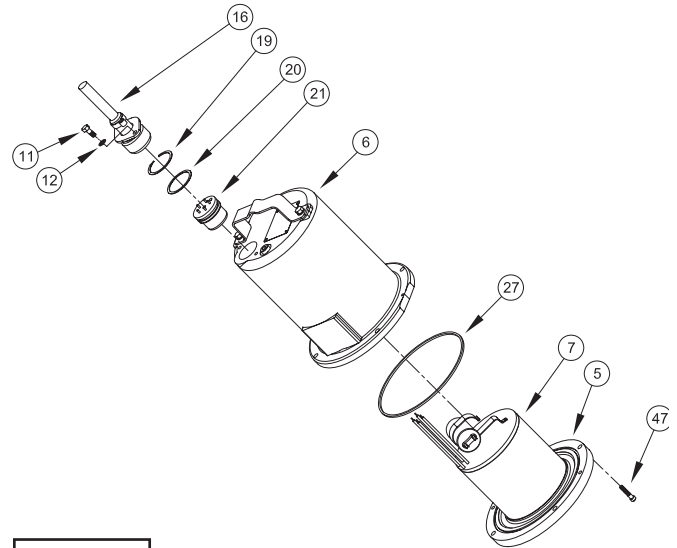
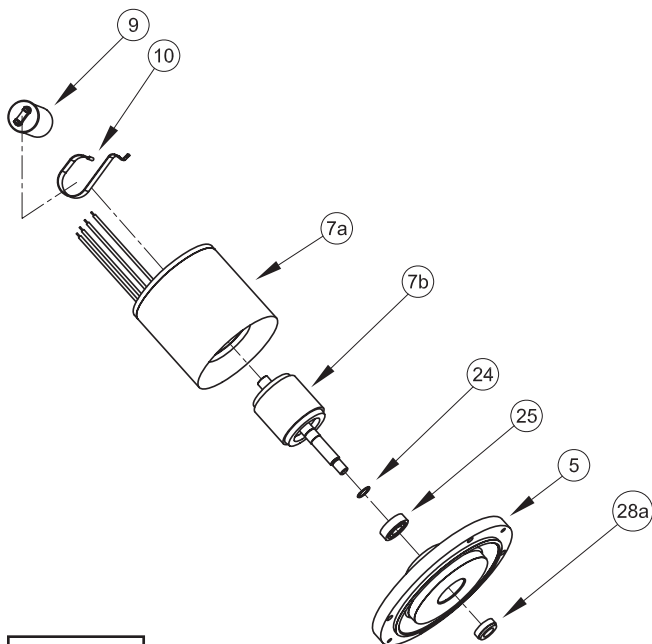

FIGURE 11
FIGURE 12
Position unit upright, using blocks to avoid resting unit on shaft. Unscrew cable hex bolts (11) and remove compression flange (16a) and power cord (16). Remove snap ring (19) with a flat head screwdriver. Pull the terminal block (21) out of the housing (6) using a T-bolt or pair of pliers and a .25-20 screw in the threads of the terminal block (21). Be sure to leave slack on the motor leads connected underneath. Use needle nose pliers to pull each female connector off of the pins on the underside of the terminal block (21) see Figure 11. The unit voltage should be noted. Repeat cable and terminal block removal procedure for any control cables (56) if equipped. Remove socket head cap screws (47). Vertically lift the motor housing (6) from seal plate (5) by lifting handle (13). Inspect square ring (27) for damage or cuts. Remove the motor bolts and lift motor stator from seal plate (5). Disconnect capacitor leads from capacitor (9, single phase units). Examine bearing (25) and replace if required. If replacement is required, remove bearing (25) from motor shaft using a wheel puller or arbor press, see Figure 12